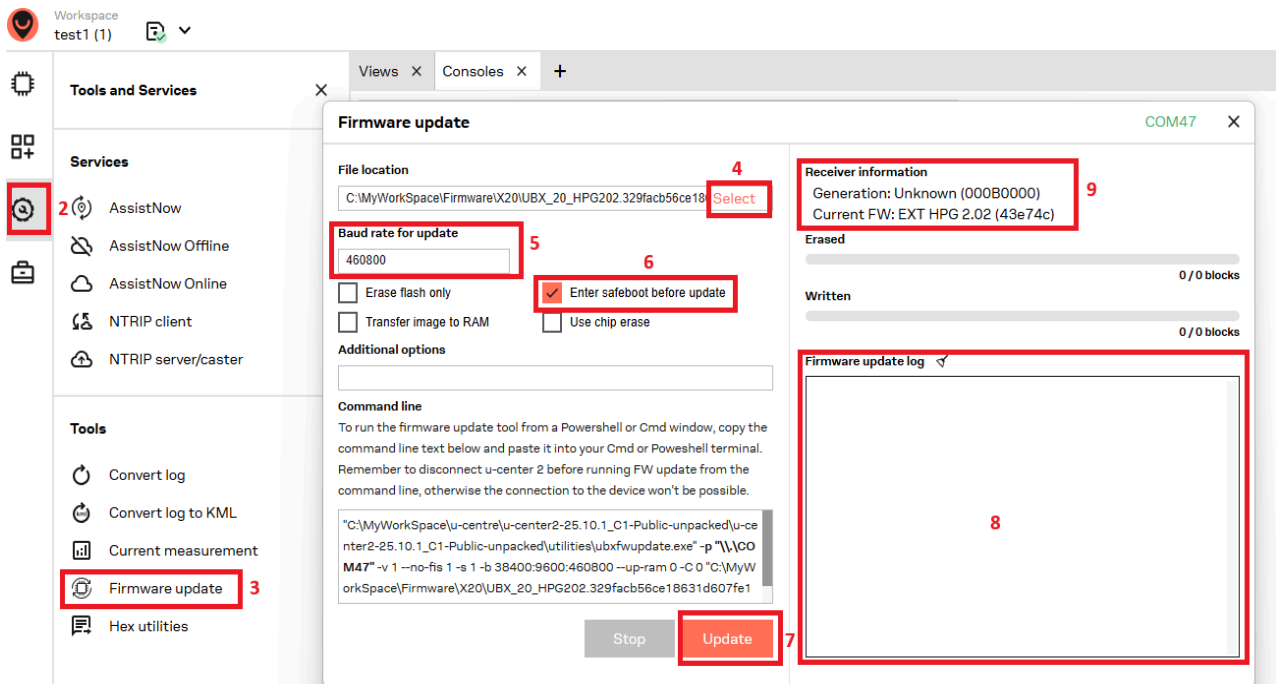

Figure 26: Firmware update tool in u-center 2
3. Select **Firmware update** from **Tools and Services** as shown in Figure 26. The firmware update window appears, as shown in Figure 26.
6. Enable **Enter safeboot before update** option as shown in Figure 26.
8. Firmware update progress is captured under **Firmware update log** section as shown in Figure 26.
9. Once the firmware update is successful the latest firmware details are displayed under **Receiver information** section as shown in Figure 26.
-  Do not enable safeboot option as shown in Figure 26 while doing firmware update over USB